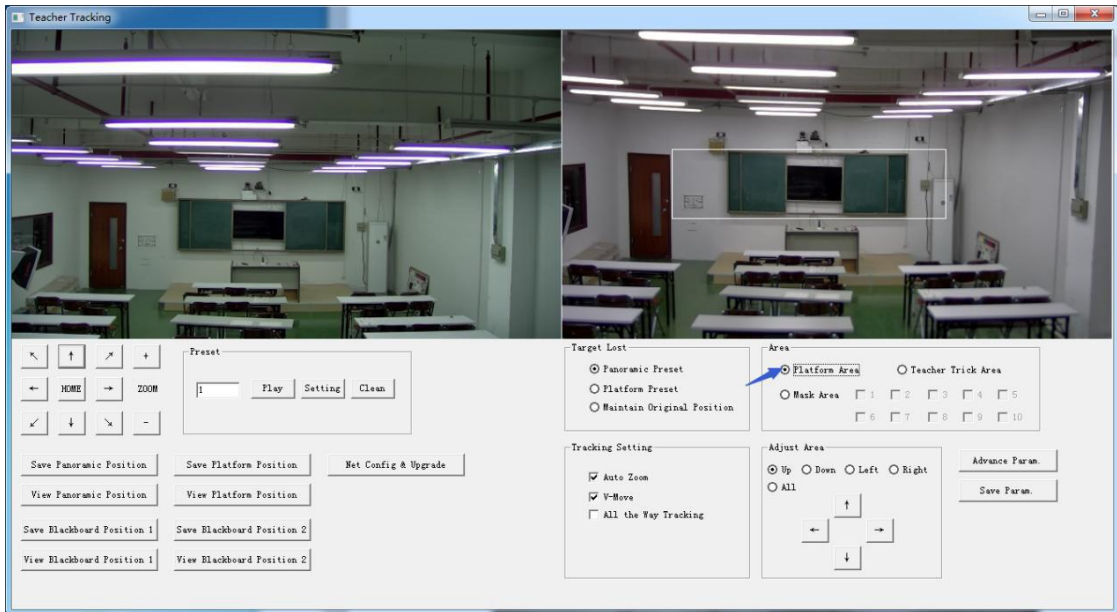

Figure 5.2-3 Operation interface
**Platform area:** It is the area tracked once close-up lens start up tracking. It is blackboard area on platform generally so as to ensure that when teacher is on platform his upper body is displayed within setting area, and it will not exceed lower margin of platform area when students in the first row sit down. See Figure 5.2-3.